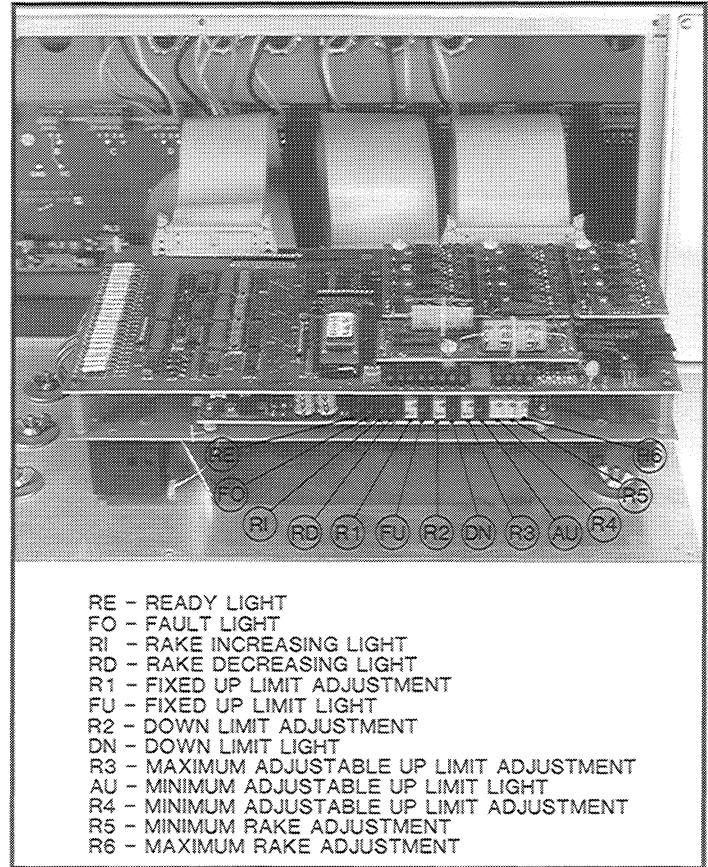

FIGURE 9-54 - Linear pot PC board
2. Six rotary pots are located on the front edge of the Linear Pot board. Preliminary adjustments must be made on these pots before turning ON power to the machine. See Figure 9-54. The pot adjusting tool is used to set trim pots R1 through R6 as follows:
- 6. Adjust trim pot R6 so the rake increase (RI) and rake decrease (RD) lights are both "OFF". Refer to Figure 9-54.